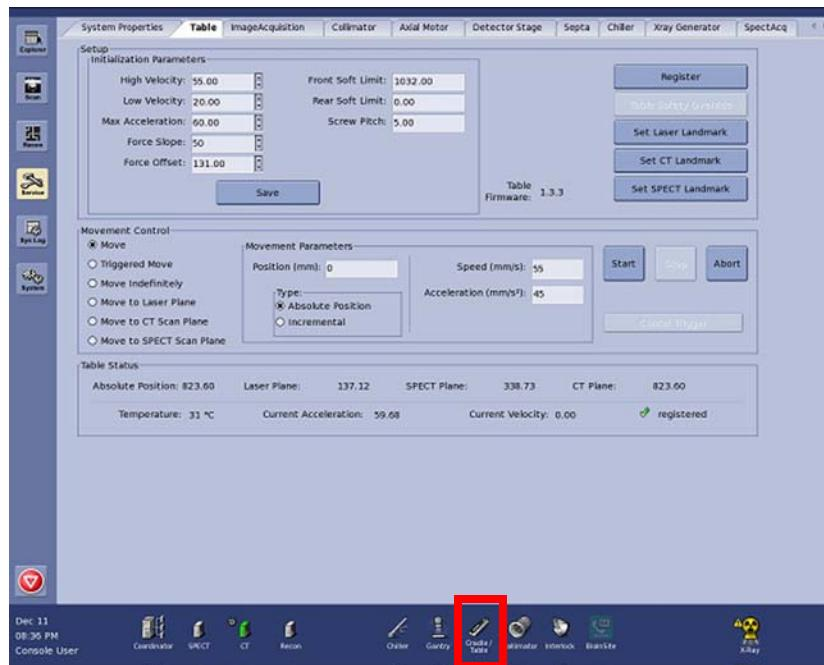

Figure 4-8
19. Hover the mouse over the icon on the main screen to display the cradle installed. (Figure 4-8)